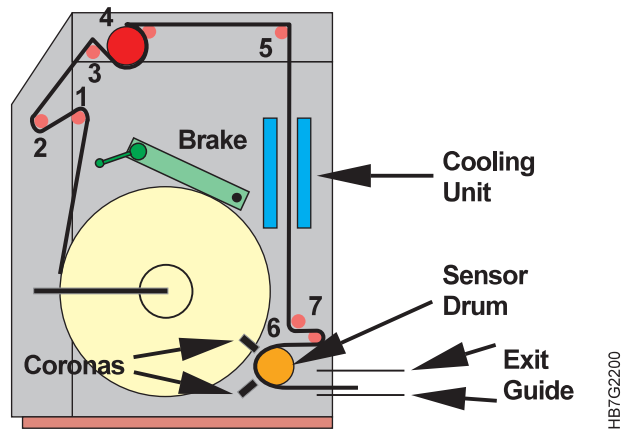

Figure 301. Paper Supply Paper Path
- 22 Bring the paper down and under axle 6 and around axle 7, as shown in Figure 301, and then tape the point of the paper to the top of the sensor drum.